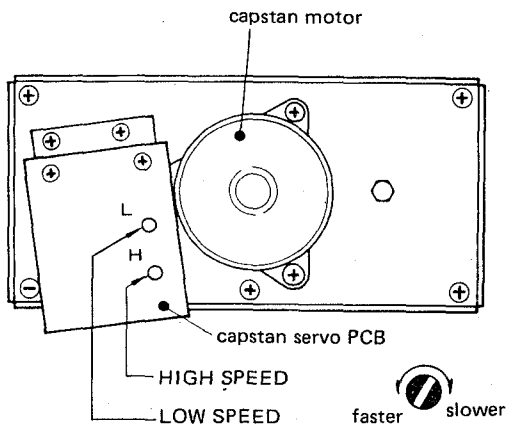

Fig. 2-22
3. Play the tape. Adjust HIGH SPEED control (see Fig. 2-22) for a reading of 3,000Hz \pm 5Hz.